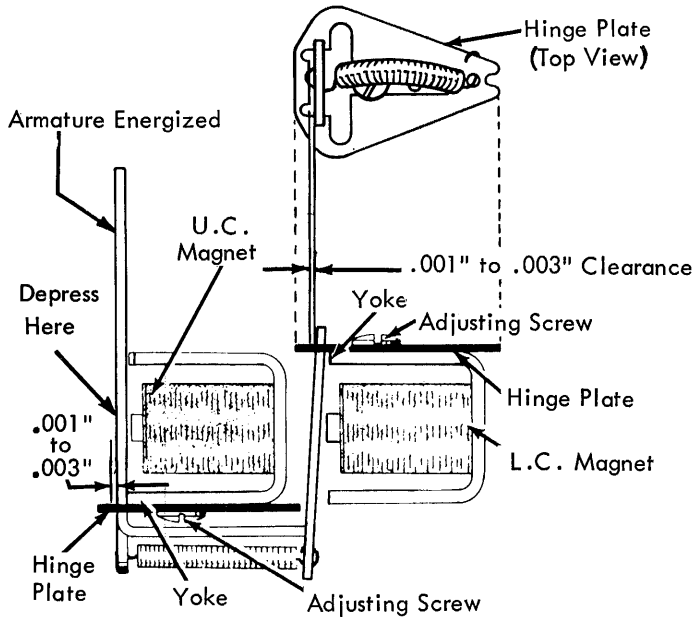

FIGURE 74. Hinge Plates
1. Hinge Plates (Fig. 74) - Position the hinge plates with the armatures manually attracted to obtain .001" to .003" clearance between the armatures and hinge plates.
4. UC Magnet Assembly - Position so that its mounting screws are centered in the elongated holes with the hinge plates (Fig. 74) parallel with the assembly mounting plate.